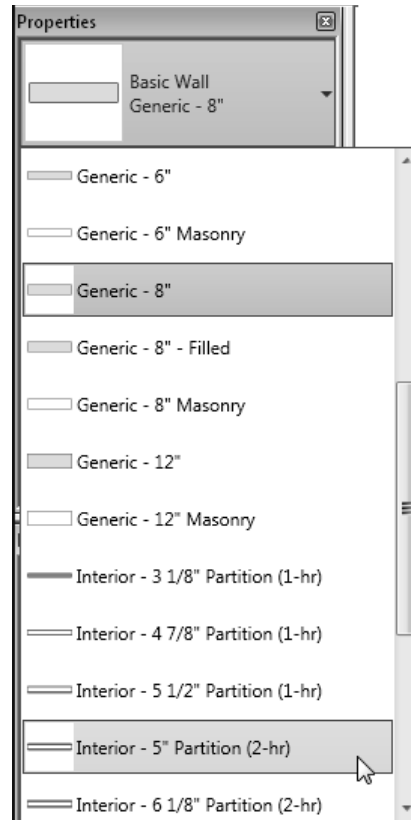

Figure 3-51 Selecting the **Basic Wall : Interior - 5" Partition (2-hr)** wall type
- Invoke the **Wall** tool and select the **Interior - 5" Partition (2-hr)**, refer to Figure 3-51.
- On invoking the **Wall** tool, the wall instance parameters are displayed in the **Properties** Palette. In this Palette select **Interior - 5" Partition (2-hr)** from the **Type Selector** drop-down list, as shown in Figure 3-51.